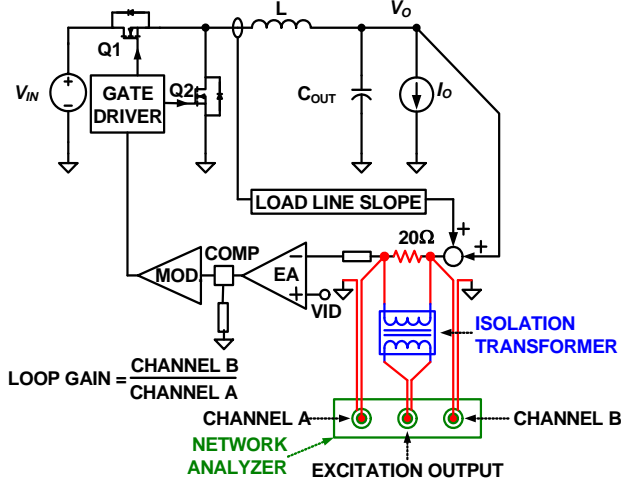
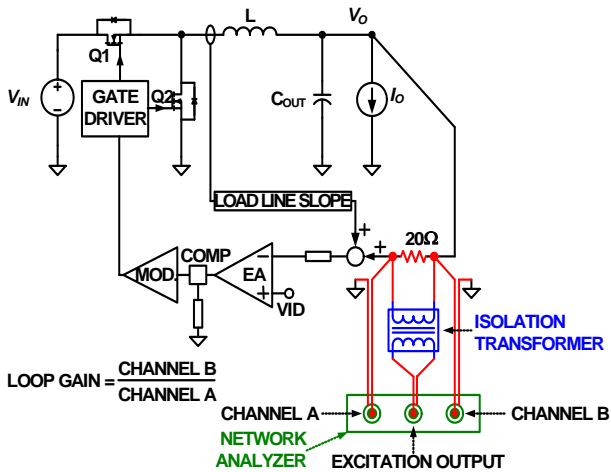

FIGURE 26. LOOP GAIN $T_1(s)$ MEASUREMENT SET-UP
FIGURE 27. LOOP GAIN $T_2(s)$ MEASUREMENT SET-UP
Figure 26 conceptually shows T1(s) measurement set-up and Figure 27 conceptually shows T2(s) measurement set-up. The VR senses the inductor current, multiplies it by a gain of the load line slope, then adds it on top of the sensed output voltage and feeds it to the compensator. T(1) is measured after the summing node, and T2(s) is measured in the voltage loop before the summing node.